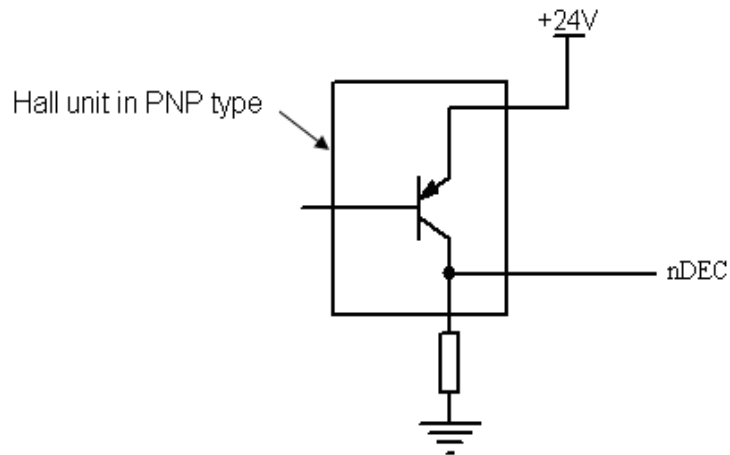

Fig. 2-1-11 Connection with Hall unit in PNP type
③ Refer to the following Fig. 2-1-11 about the connection method of taking one Hall unit in PNP type as one deceleration signal: